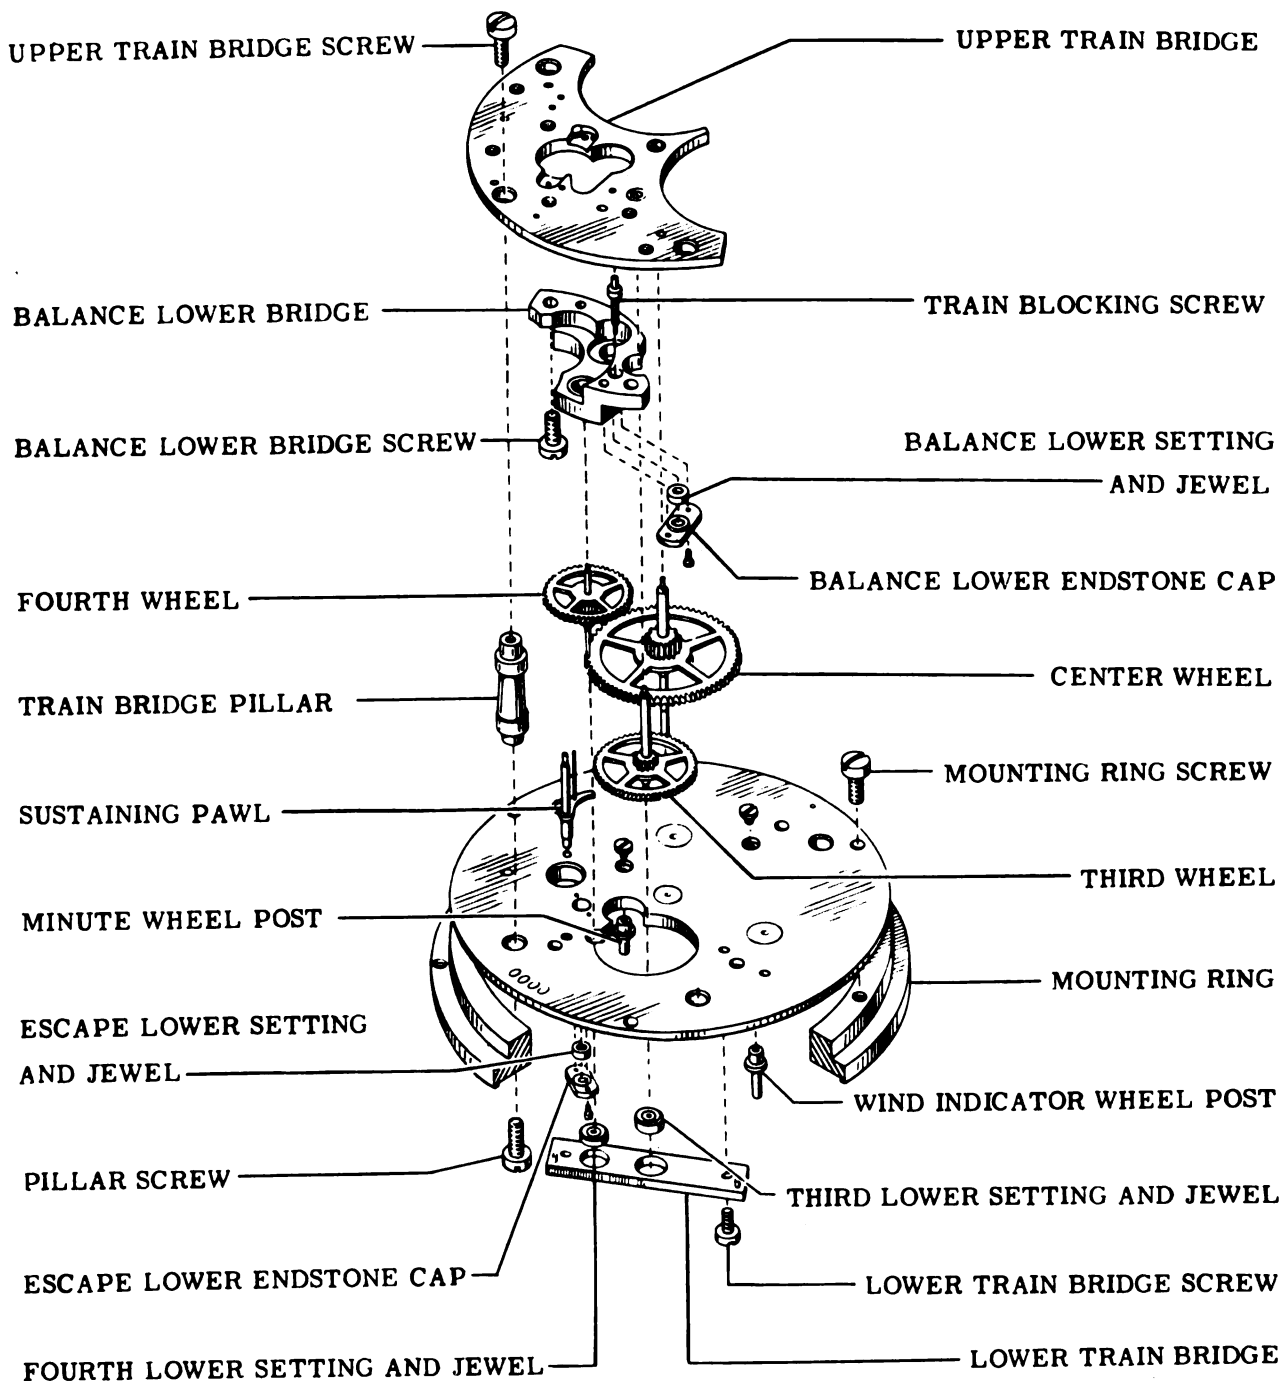
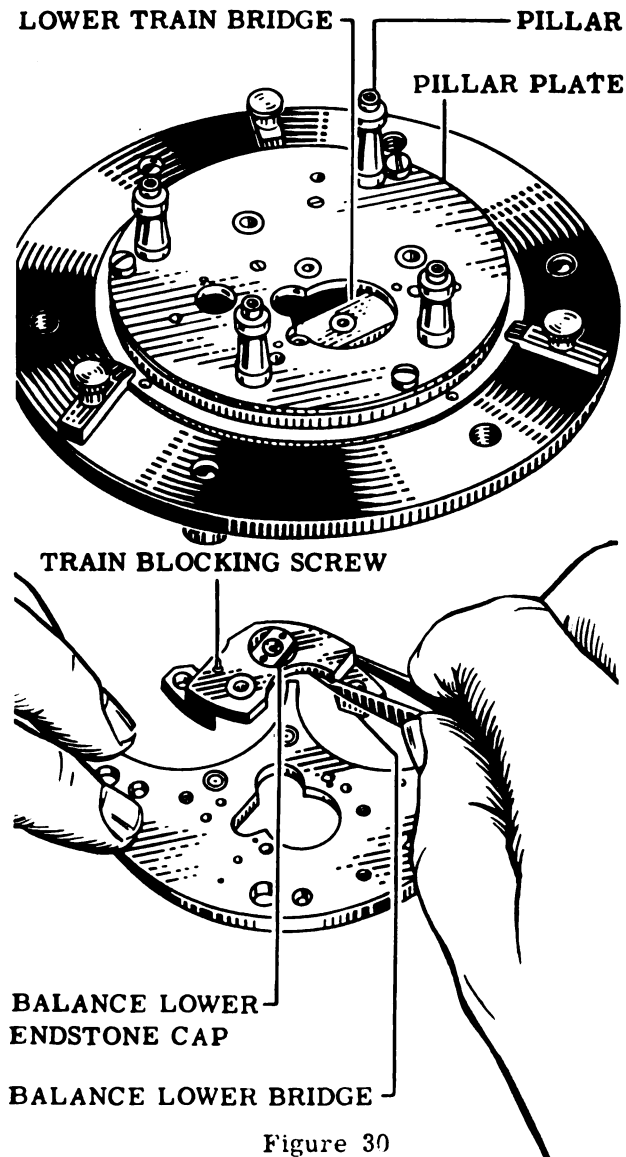
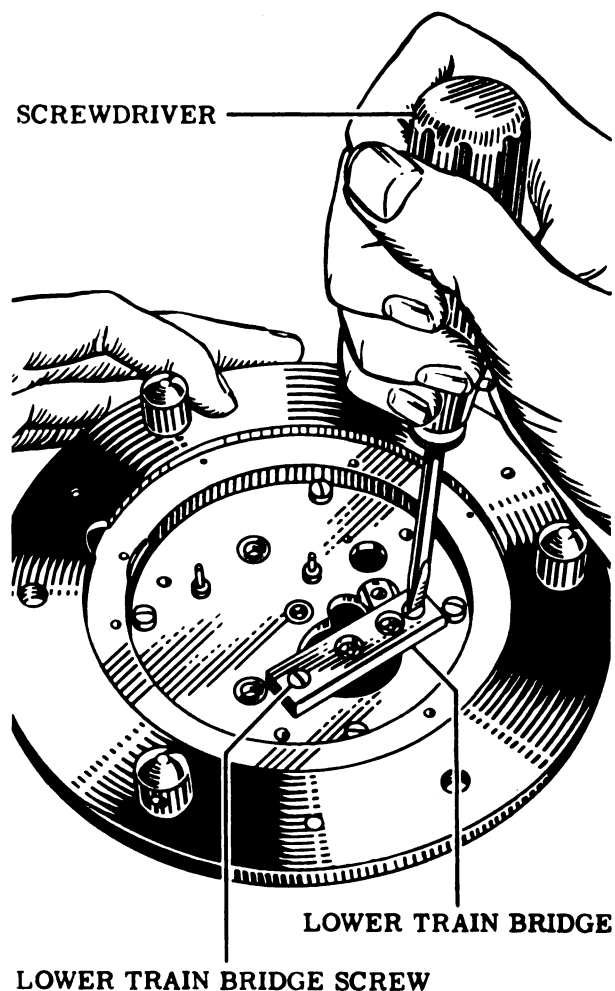

Figure 29
Figure 30
Figure 31
47. Remove three upper train bridge screws, indicated in Fig. 29, using Tool No. 96.
48. Lift the upper train bridge straight up off the pillars. See Fig. 29.
49. Remove fourth wheel, center wheel, third wheel and sustaining pawl. See Fig. 29.
50. Remove two balance lower bridge screws from the upper train bridge, using the special shell screwdriver, Tool No. 96. Remove balance lower bridge. See Figs. 29 and 30. The upper part of Fig. 30 shows condition of the pillar plate after removal of the upper train bridge.
51. Remove train blocking screw. See Figs. 29 and 30. Remove two balance lower endstone cap screws. Remove endstone
cap from bridge. See Figs. 29 and 30. If not already done, mark the numeral "2" in the milled recess of the balance lower endstone cap.
52. Remove four pillar screws from the dial side, allowing the pillars to drop out, using for this purpose the special shell screwdriver, Tool No. 96. See Fig. 29.
53. Remove two screws from the lower train bridge and remove lower train bridge. Use Tool No. 94. See Fig. 31. Refer to Fig. 29 for exploded view.
54. Remove two escape lower endstone cap screws and remove endstone cap. See Fig. 29. If not already done, mark the
55. Using special shell screwdriver (Tool No. 96), remove mounting ring screws. Lift pillar plate from mounting ring. See Fig. 29.
56. Remove wind indicator post screw and remove post. See Fig. 29.
57. Remove minute wheel post screw and remove post. See Fig. 29.